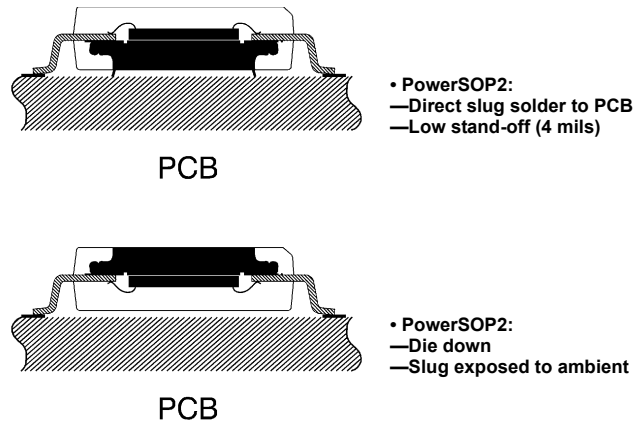

FIGURE 2. 28 PSOP 2 BOARD MOUNTING OPTIONS
The slug provides low thermal resistance from the die to the external heatsink and also through the leads. At the same time, it provides a large thermal capacitance to absorb power peaks during switching. Thermal resistance ( $\theta_{JC}$ —junction to case) for a typical 100 x 100 mil die is 45°C/W. The electrical lead resistance is in the range (5) mmhos; inductance is typically (2nH) per lead and capacitance is about 1pF. The package comes in two different lead stand-offs: normal stand-off is 9 mils and low stand-off is 2 mils. The two board mounting options are shown in Figure 2.